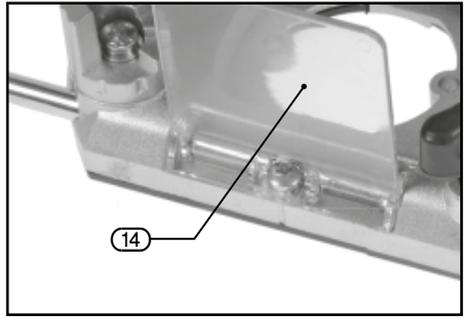

FIG.3
8.4 PROTECTIVE SAFETY SCREEN – FIG. 3